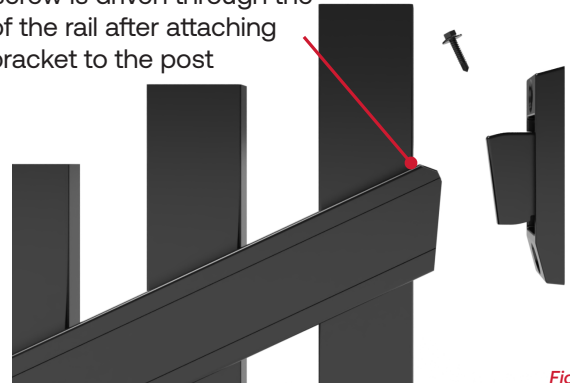

Fig. 9
2. Slot the brackets onto the rails, then place the panel between the posts into its correct position, ensuring the bracket on the lower end is inverted to accommodate the rake. Attach the brackets to the posts using the provided tek screws. *Fig. 9*